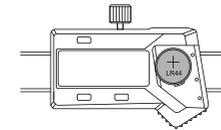

fig.2
- Put SR44 or LR44 battery into battery house, the positive side of battery (+) should face out (fig.2)